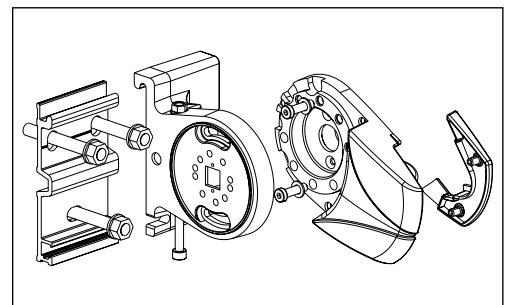

Fig. 5 : Side console with wall/ceiling bracket and mounting bracket
3.9. Entrance of the extension pole (see fig. 5)